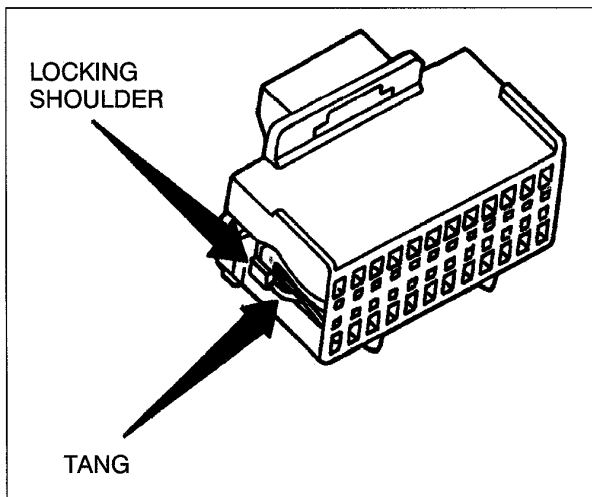

Figure 55 Push Terminal Forward to Most Forward Position
2. Grasp the lead and push the terminal forward to the most forward position (Figure 55).